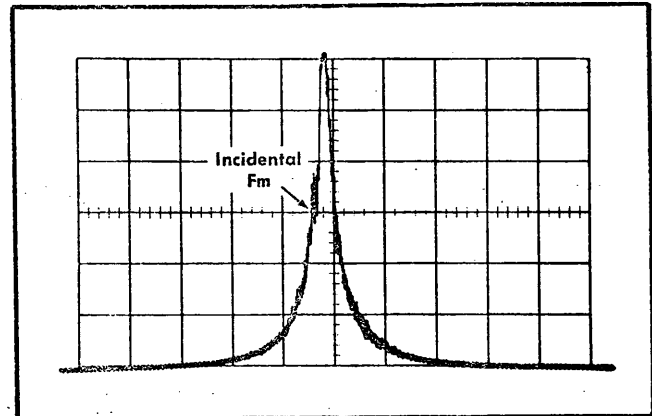

Fig. 5-6. Typical display showing incidental frequency modulation. Measure the horizontal displacement of the signal at the most vertical slope of the signal.
f. Check the amount of signal frequency modulation at the steepest slope of the signal response (see Fig. 5-6). Incidental FM is displayed as short term horizontal jitter. Disregard long term horizontal drift. Must not exceed 2 mm (≤ 200 MHz).